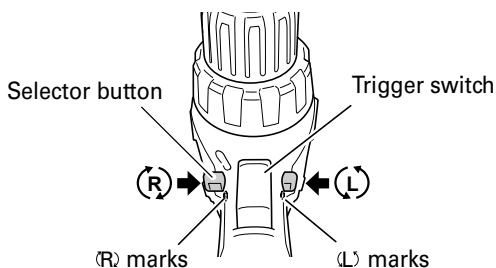

Fig. 6
The L-side of the selector button is pushed to turn the bit counterclockwise (See Fig. 6). (The (L) and (R) marks are provided on the body.)